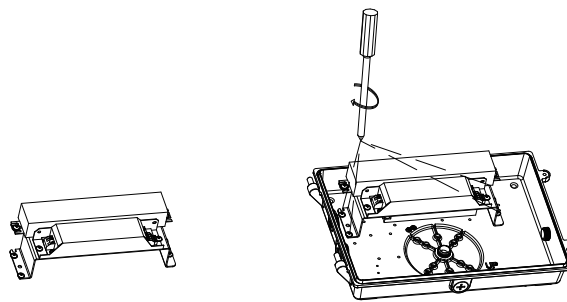

figure 1
STEP 1) Put the assembled emergency package on the corresponding hole of the wall lamp base, and fix it with 4PCS PWM4*6 screws (as shown in the figure 1).